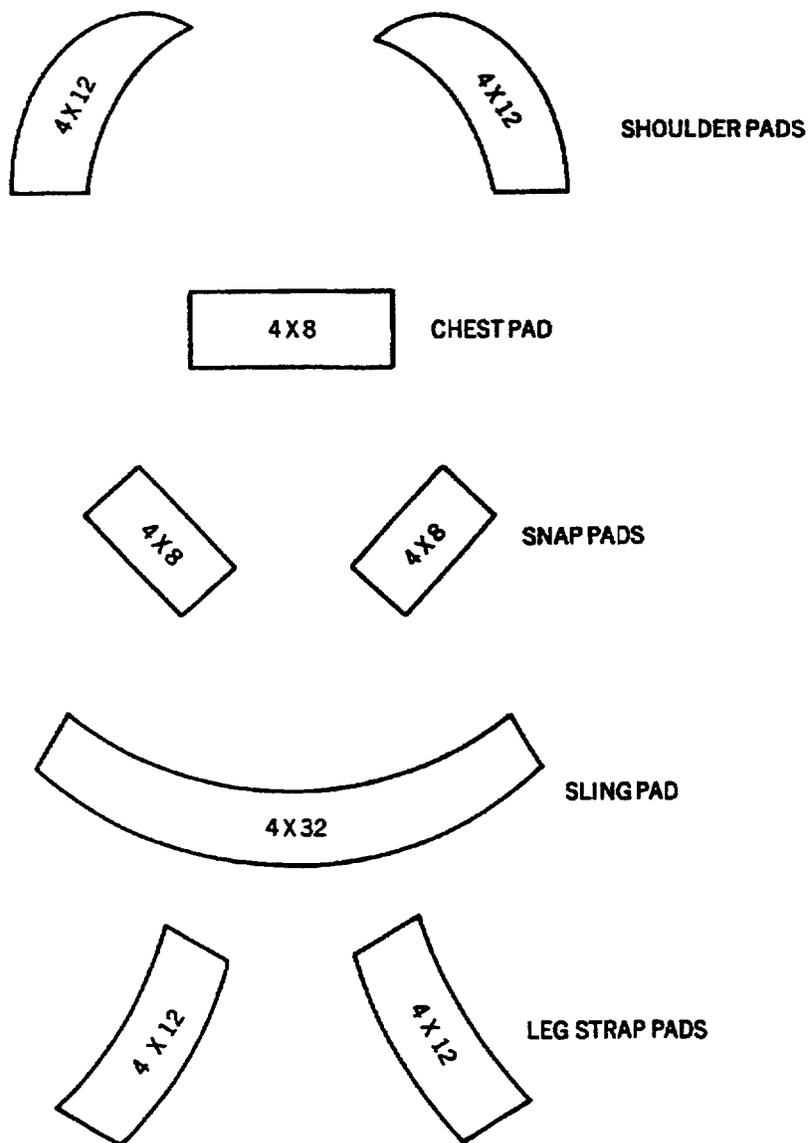

Figure 6. Different Comfort Pads
e. Different sizes of comfort pads (optional) (Figure 6).